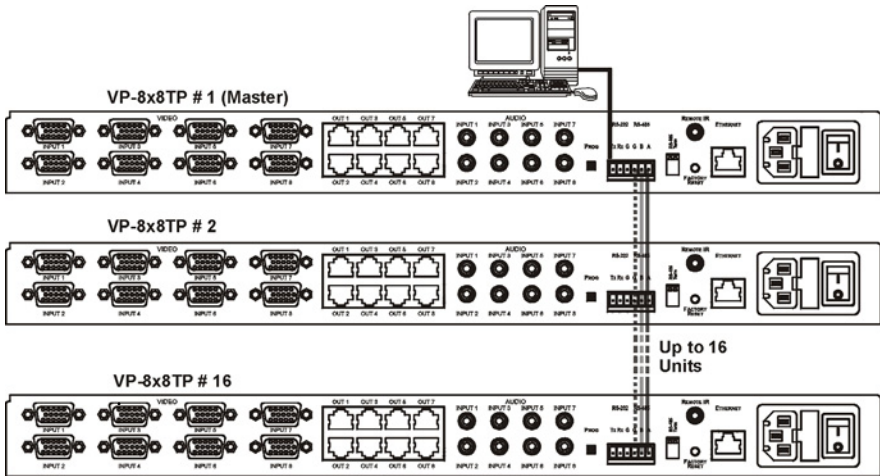

Figure 14: Control Configuration via RS-232 and RS-485
**To operate up to 16 VP-8x8TP units remotely via RS-485 (see Figure 14):**